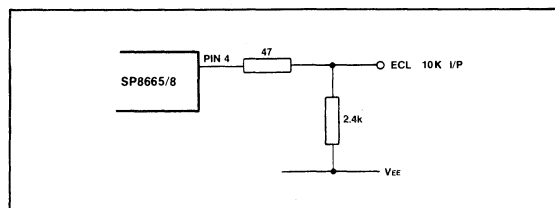

Fig.7 SP8665/8 to ECL 10K interface
5. The emitter follower output includes an internal 3k pulldown resistor and is compatible with ECL II, but can be interfaced with ECL III/10K by the inclusion of two resistors. See Fig. 7.